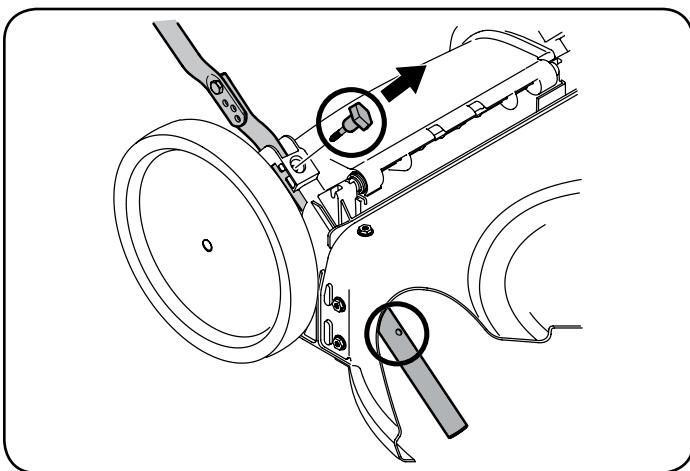
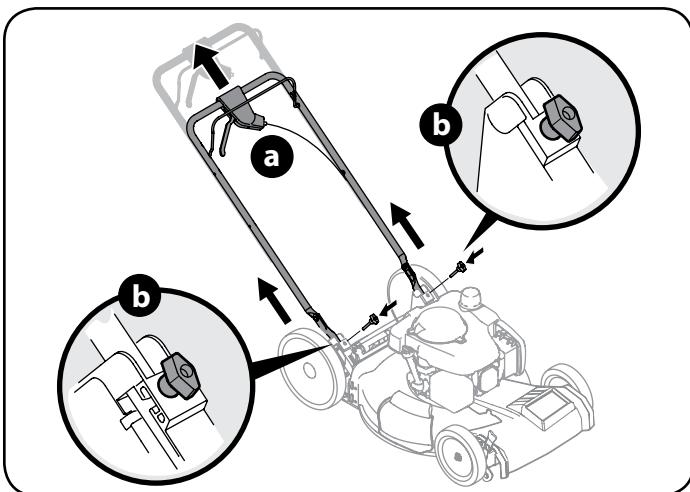

Figure 6
Figure 7
5. Remove T-bolts from the handle brackets as shown in Figure 6.
- Pull upward on the handle until holes in lower handle (shown in Figure 6 deck cutaway) line up with holes in handle bracket. See Figure 7.
- Insert the T-bolts removed in Step 2 through the handle brackets and lower handle and tighten securely to secure the handle in place. See Figure 7.